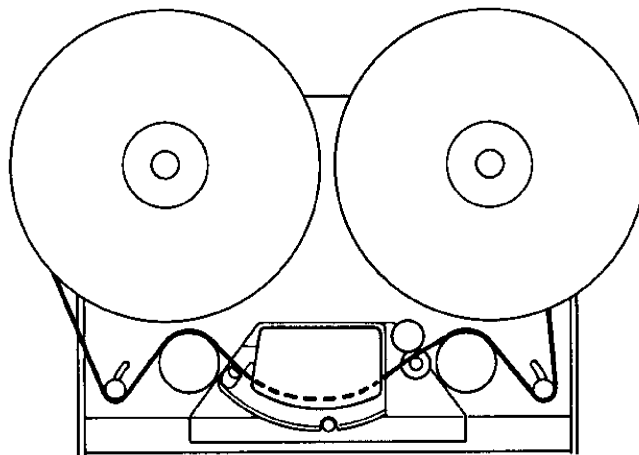

Fig. 5.1
Thread the tape as shown in Fig. 5.1 making sure the tape passes through the slit of the Tape Presence Sensor (5), and that the Head Shield Gate (4) is in the lowered position.